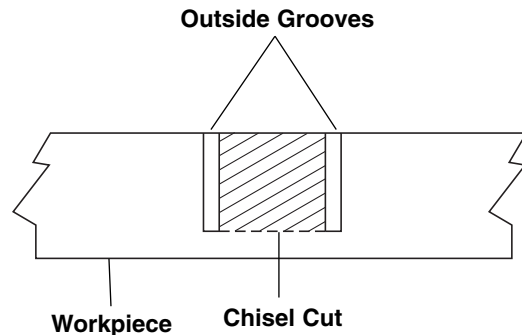

Figure 33a. Rough Cut Groove
4. Use a wood chisel or make multiple passes by sliding the wood over to one side to remove the material between the outside grooves (Figure 33a).